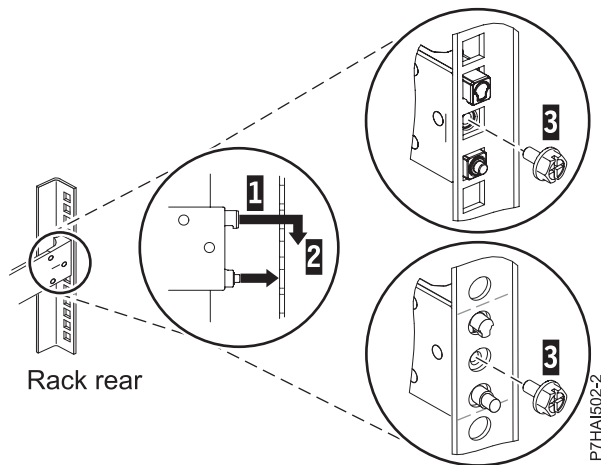

Figure 3. Aligning and engaging the pins into the holes in the rear of the rack
3. Align the two pins located on the rear of the slide rail with the top and bottom holes within the selected EIA unit that were previously marked. Pull the slide rail toward you to insert the two pins into the rack holes (1), and lower the slide rail down (2) to engage the hook feature on the top pin. For details, see Figure 3 on page 5. Ensure that the two pins protrude through the rack holes before you proceed to the next step.